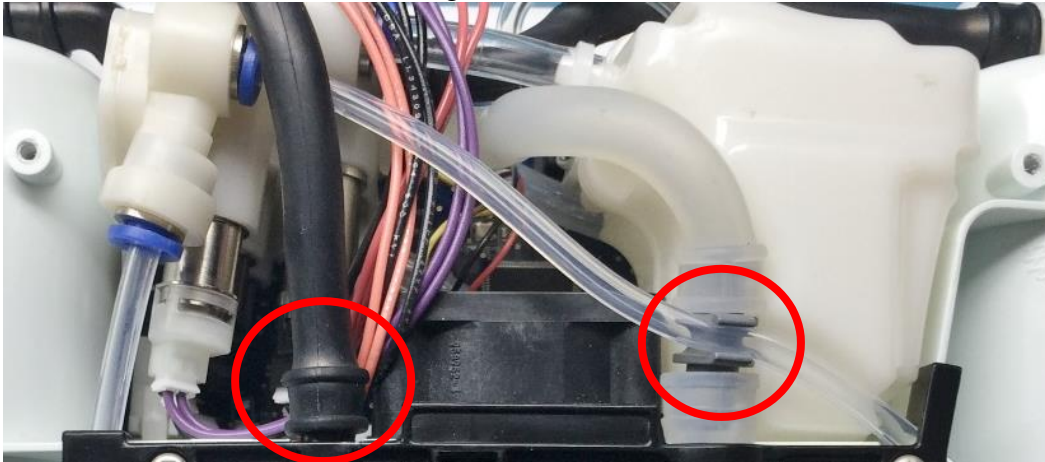

Figure 6: Exhaust Tube and Column Tube
2. Remove the Exhaust tube from the Tube Bracket and Muffler. Then unclip the Column tube from the Inlet Union Barb (Figure 6).